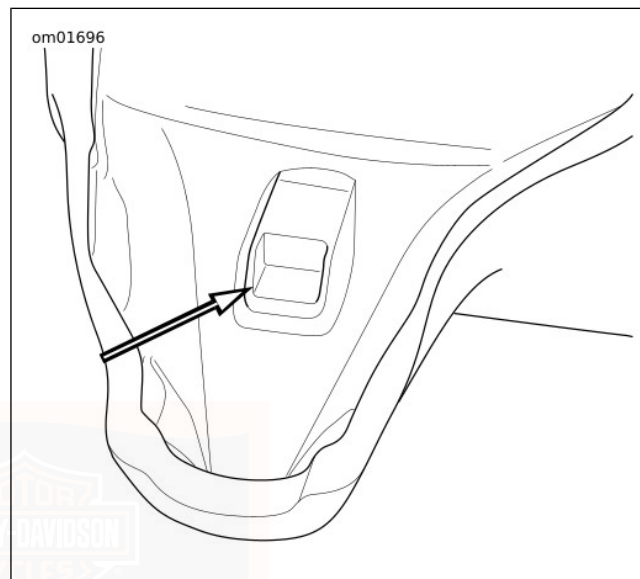

Figure 96. Seat Mounting Slot
1. See Figure 96. Firmly push front of seat downward and forward until slot engages tongue.
1. See Figure 96. Place seat on frame backbone.